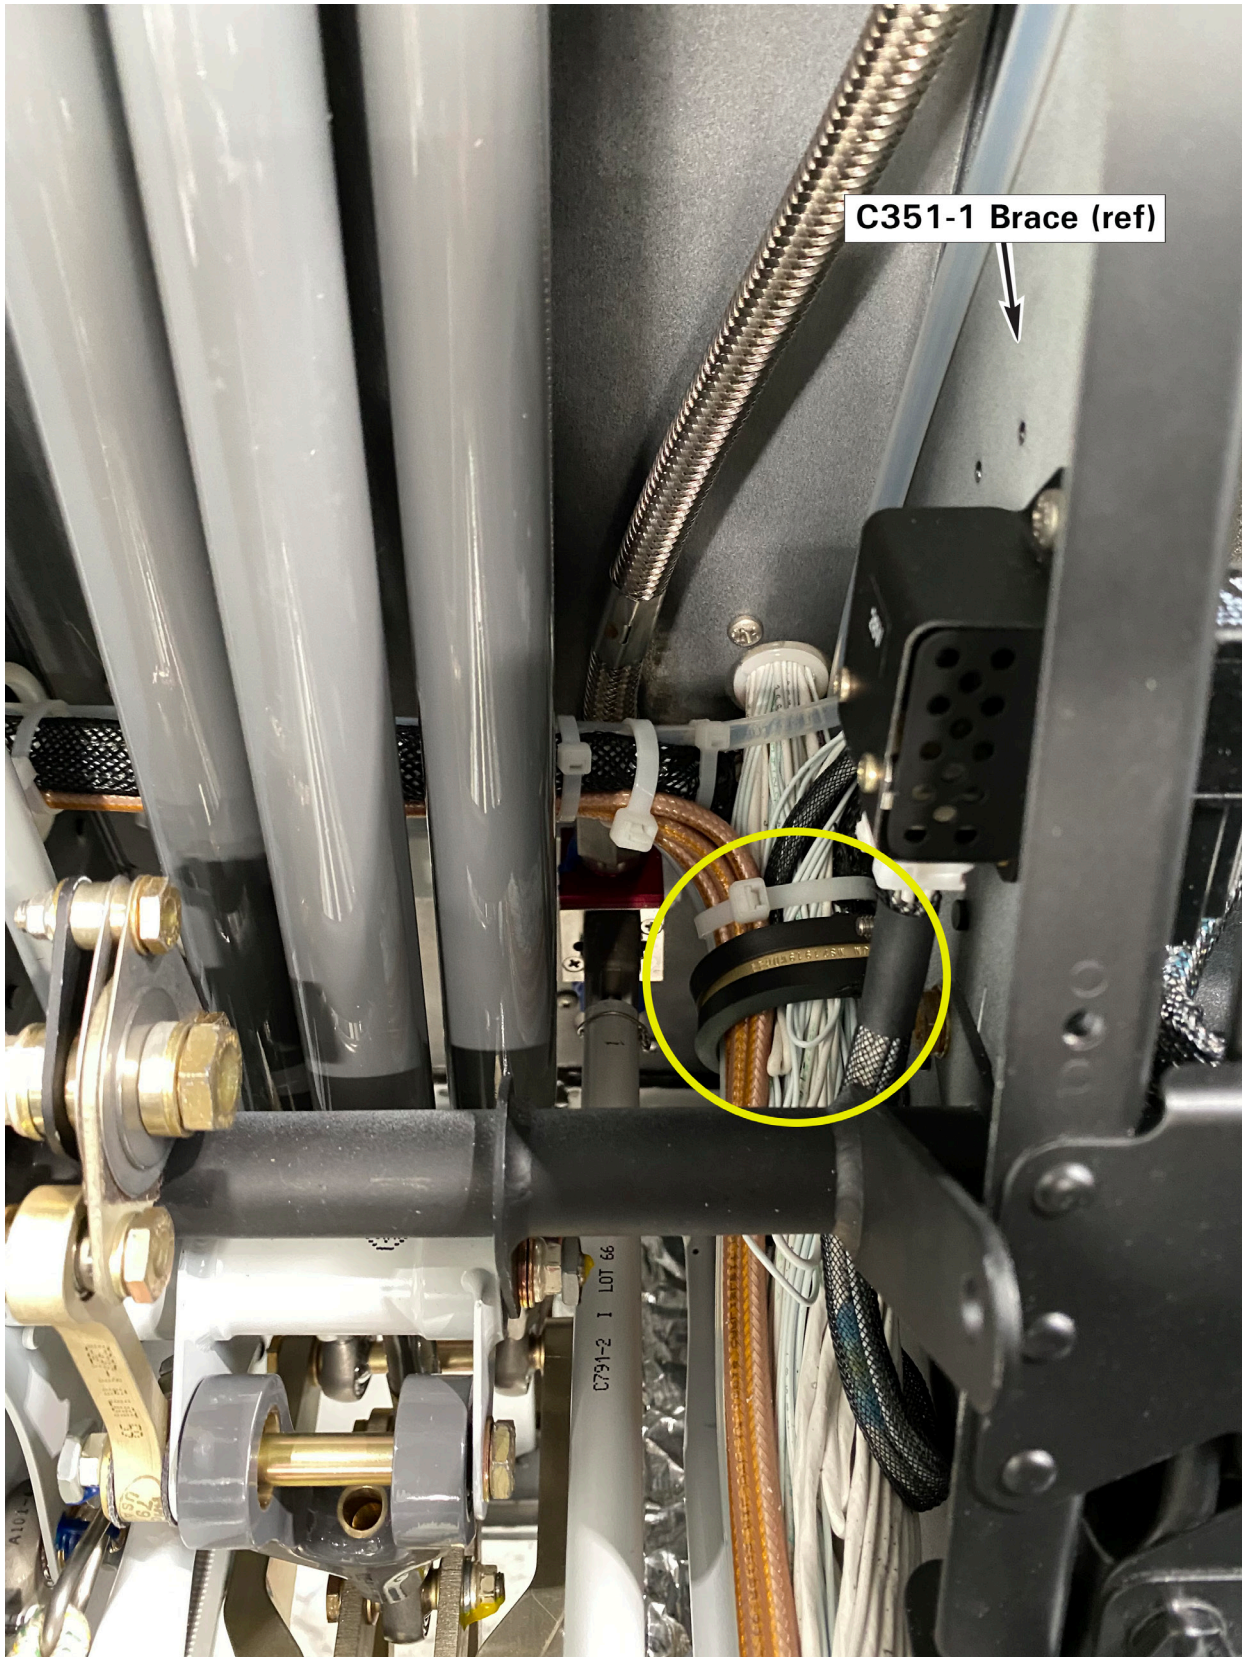

FIGURE 6 Location of clamp, ty-rap location typical (fwd of firewall; view looking aft)
16. Refer to Figure 6. In aft tunnel, approximately three inches forward of vertical firewall, locate MS21919WDG22 clamp around longitudinal (fore-aft) harness. Carefully remove ty-raps from longitudinal harness aft of clamp and three inches forward of clamp. Remove & retain clamp and hardware.